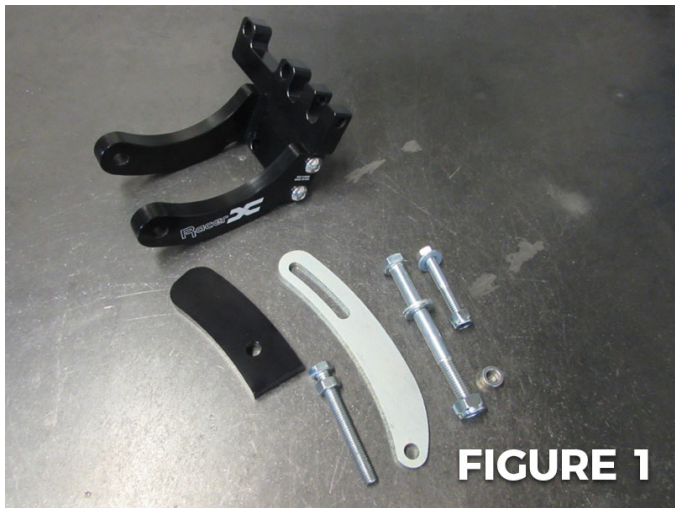

FIGURE 1
1. See pre-assembled alternator bracket and components included with the alternator bracket kit. (Fig 1)